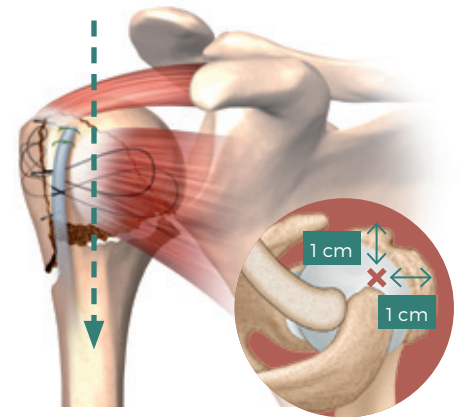

fig. 2
- Visually and/or with radiographic guidance locate the entry point which is at the humeral head apex (fig. 2).